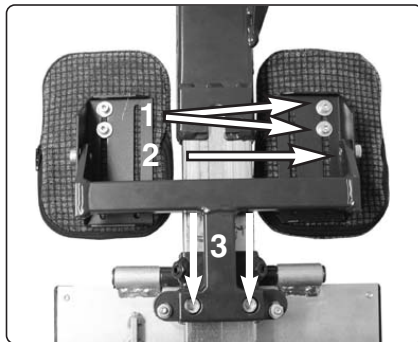

Fig. 16. Calf rest viewed from behind.
The calf rest is mounted with two screws, see Fig. 16:3.
1. Loosen the two screws on the back side of each calf rest, see Fig.16:1.
1. Loosen the screw on the back side of each calf rest, see Fig 16:2.